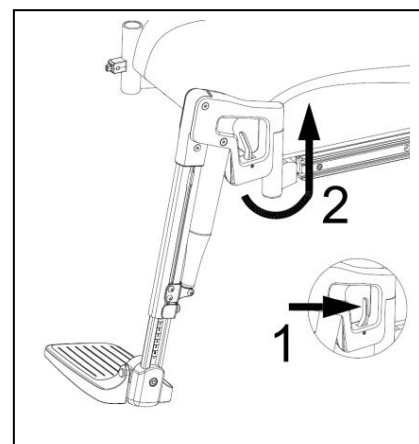

Figure 6.2
- If possible, swing the legrests to the side (fig 6.2).